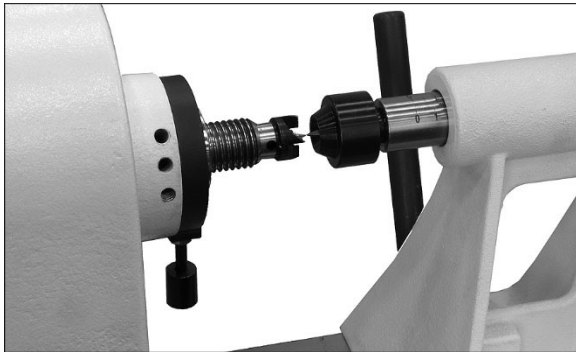

Figure 18
2. Slide the tailstock toward the headstock until the centers almost touch (see Figure 18). Lock the tailstock in position.